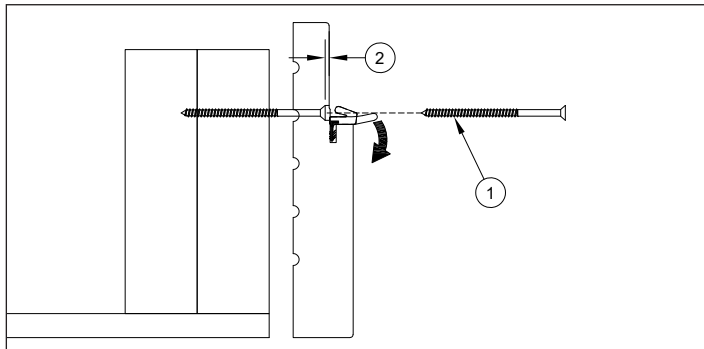
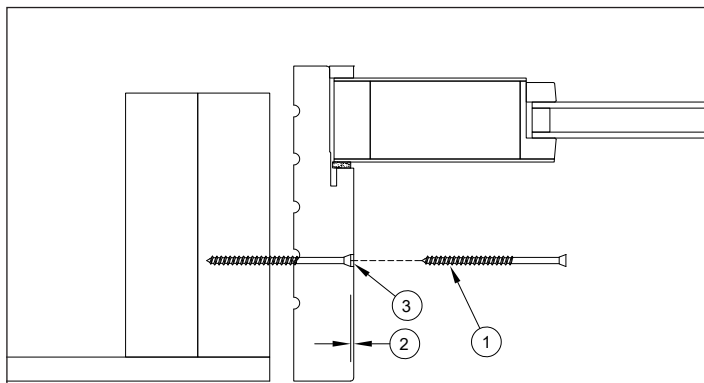

Figure 14
Figure 15
6. On operators, place the screws behind the frame weather strip. On sidelites place the screw so it will penetrate the center of the framing member. Repeat this procedure on the opposite side. See figure 14 (operator) and figure 15 (sidelite) for details on exact screw placement.